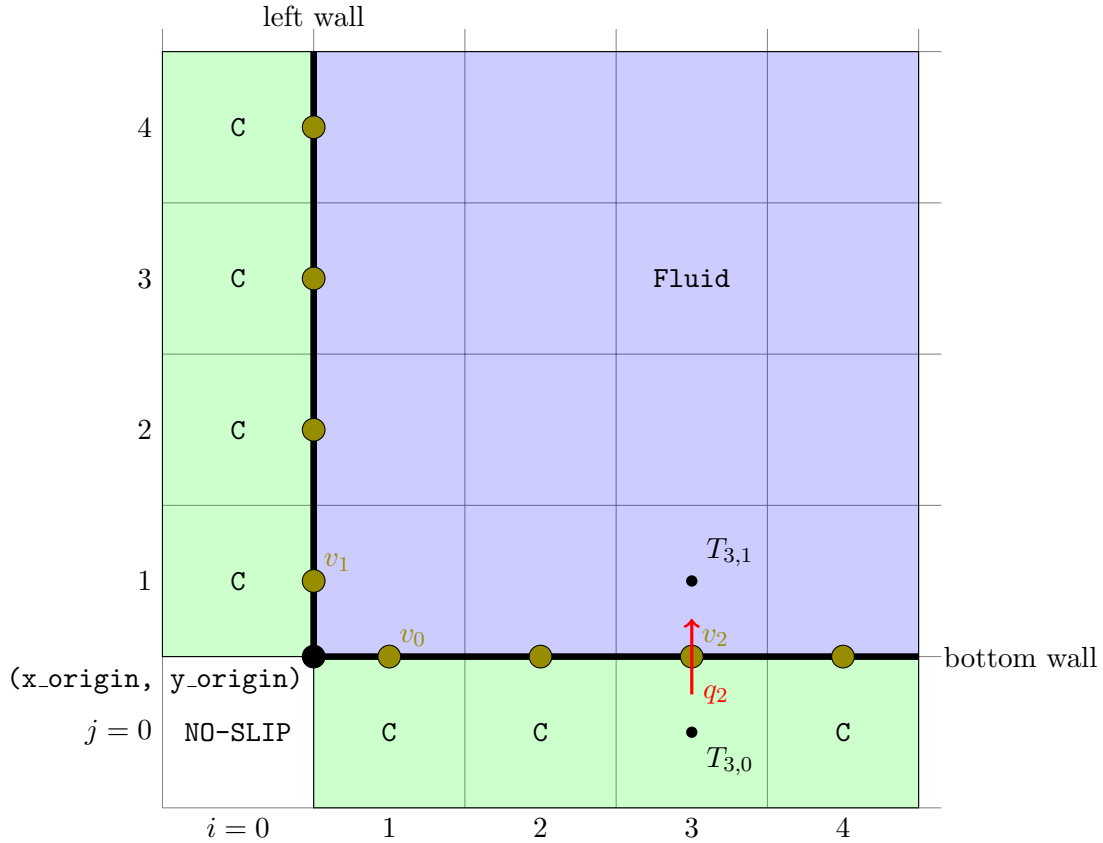

Figure 2: Vertex locations
1. Read one double each for the `x_origin` and `y_origin` (see figure 2). Adjust the VTK output to take the origin into account. We also need the origin later to set the right coordinates for the coupling vertices.
preCICE needs to know where the coupling interface is located. All vertices are located at the mid point of either the horizontal or vertical cell edge, see Figure 2. The vertex v_0 located at the bottom wall has coordinates $(\mathbf{x_origin} + (i - 0.5) \cdot \mathbf{dx}, 0, 0)$, vertex v_1 located at the left wall has the coordinates $(0, \mathbf{y_origin} + (j - 0.5) \cdot \mathbf{dy}, 0)$. For now, we assume to have coupling boundaries only at the four walls and no coupling boundaries on obstacles inside the domain.